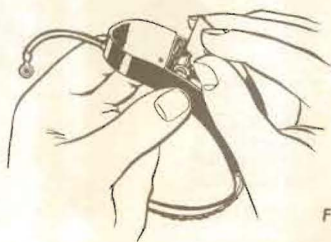

FIGURE 2
*The battery cover*, this cover is easily removable by grasping the lugs extending over the sides of the plastic housing, and then lifting the cover straight up (See Figure 2). The cover is *not* hinged and care must be taken when replacing cover to first insert one end under the lip of transformer cover.